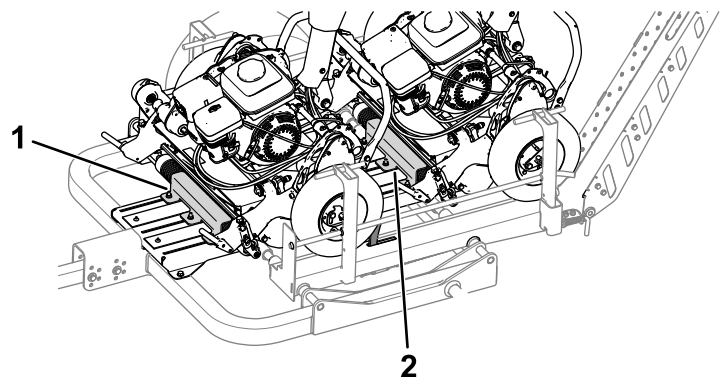

Figure 31
- B. Slide back the rear roller mount (Figure 31) until it contacts the rear-machine front roller.
- E. Slide back the front roller mount (Figure 31) until it contacts the front-machine front roller.